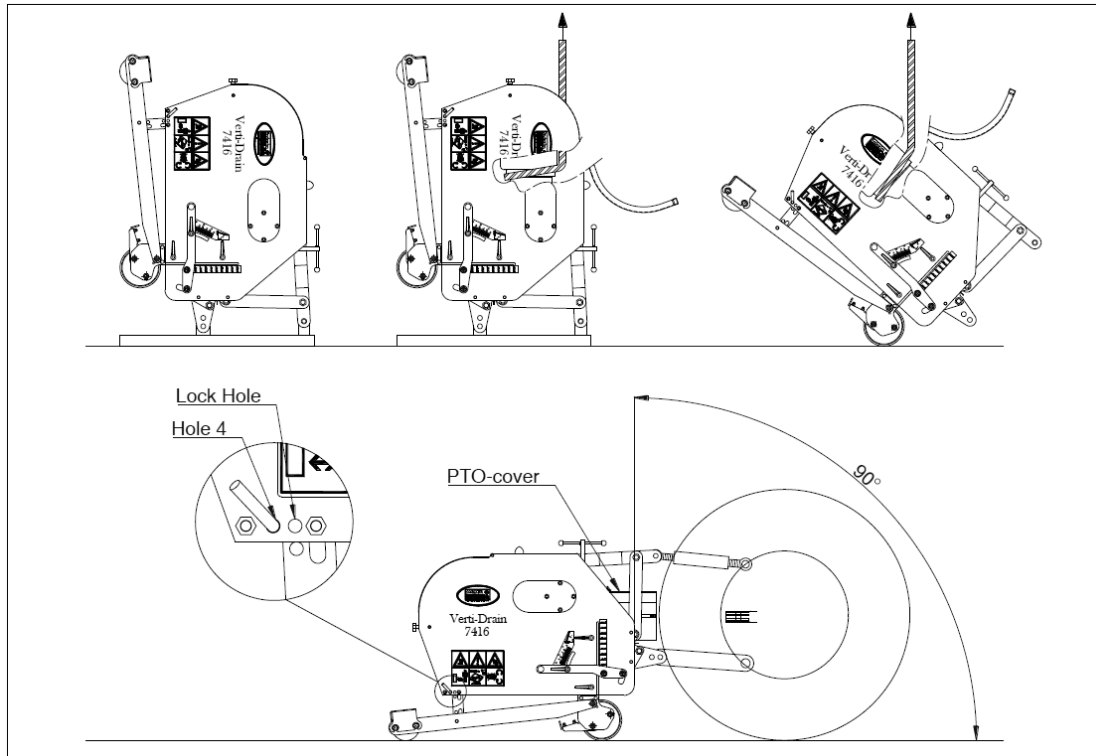

Fig. 1
The machine stands vertically up on the pallet. To remove the pallet and get the machine horizontal on the ground, handle as follows (see fig.1):
- @ The angle of 90 degrees means that the tines penetrate perpendicular into the ground. This is only true if the machine is correctly set, see fig.1. If this isn't correct a push force F, see fig 5. is applied, which can seriously damage the machine.
@ If the machine is not set correctly behind the tractor, see fig.1., different angles at the PTO may cause vibration into the drive line of the VERTI-DRAIN. This vibration can hurt the machine and also the performance of the holes in the ground.